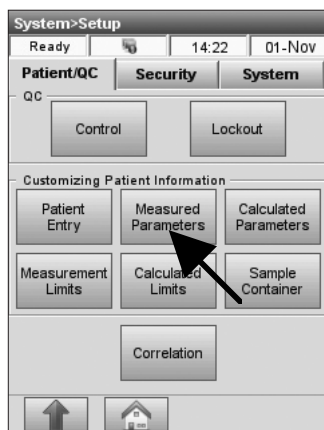

Fig. 3-23 Measured Parameters
2. On the **<Patient/QC>** tab, press **<Measured Parameters>**. (Fig. 3-23),